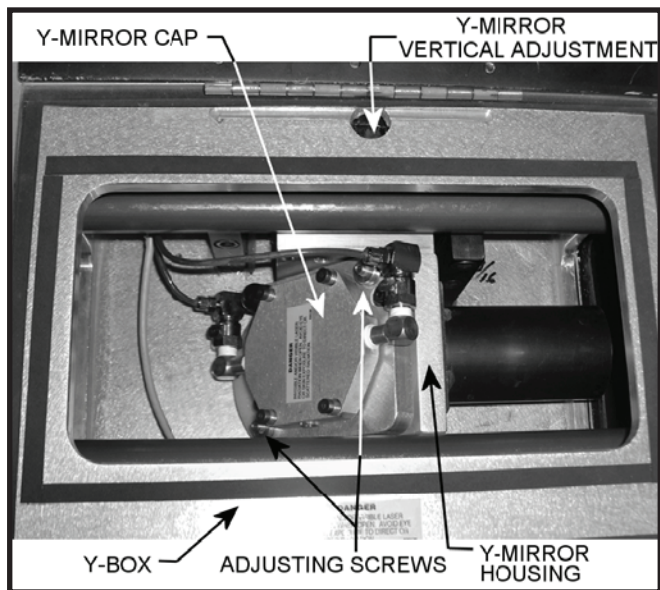

FIGURE 9-24 Y-Axis mirror top view
2. Remove the front gantry cover. See Figure 9-24.
To make the vertical adjustment, Adjust the slide vertically by turning the adjusting 3/16 " hex located through the access hole labeled Y-mirror vertical adjustment in Figure 9-24.
9. Compare the two cross hair impressions. If the two card shots do not indicate the same beam position within $\pm 0.020"$ (.5 mm), make steering adjustments to the moving Y-mirror. See Figure 9-24.